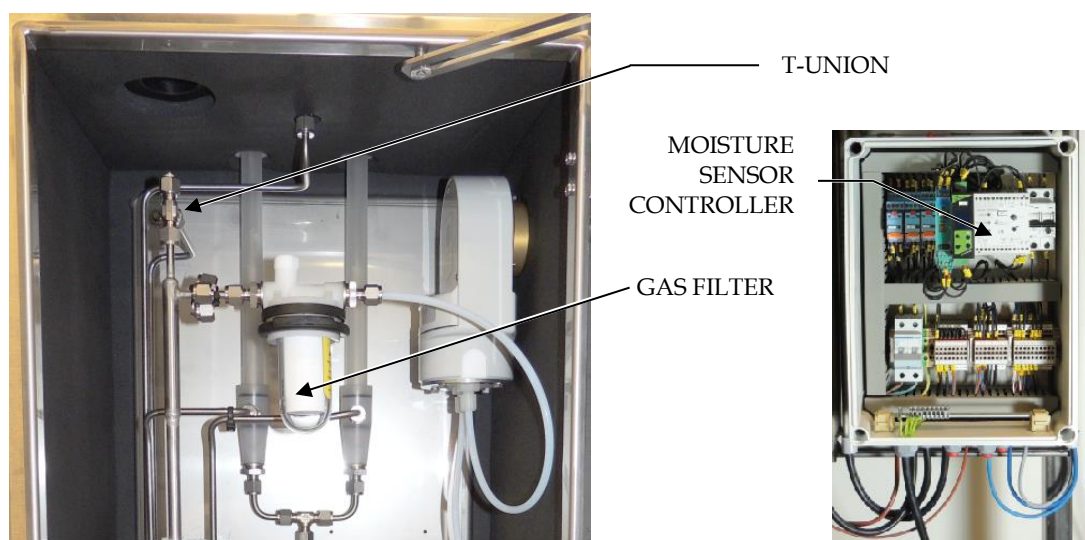

Figure 25 Disconnect heated sample line to make the system analyse ambient air
- 1) When scrubber is running and system is sampling, disconnect the heated sample line in SCS to make sure the sample is ambient air. Refer to Figure 25. Refer to Figure 1 for overview of installations.
- 2) Locate moisture sensor controller. Refer to Figure 25.
- 6) Re-connect heated sample line in SCS. Refer to Figure 25.